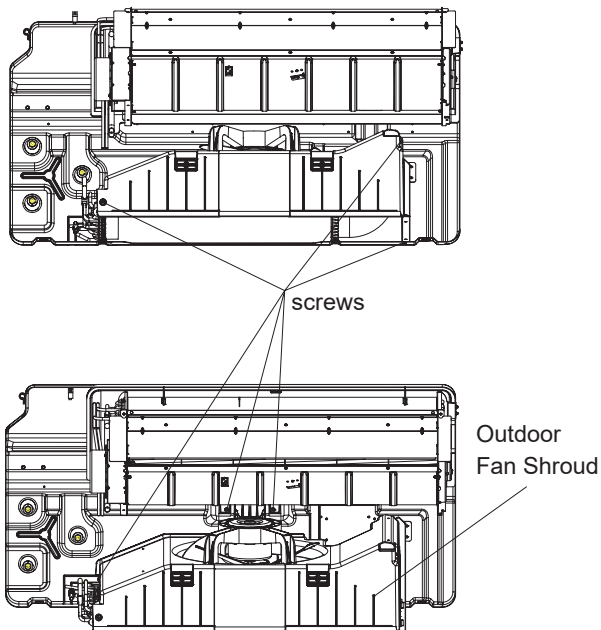

Figure 525
4. Remove outdoor fan shroud. See Figure 525.